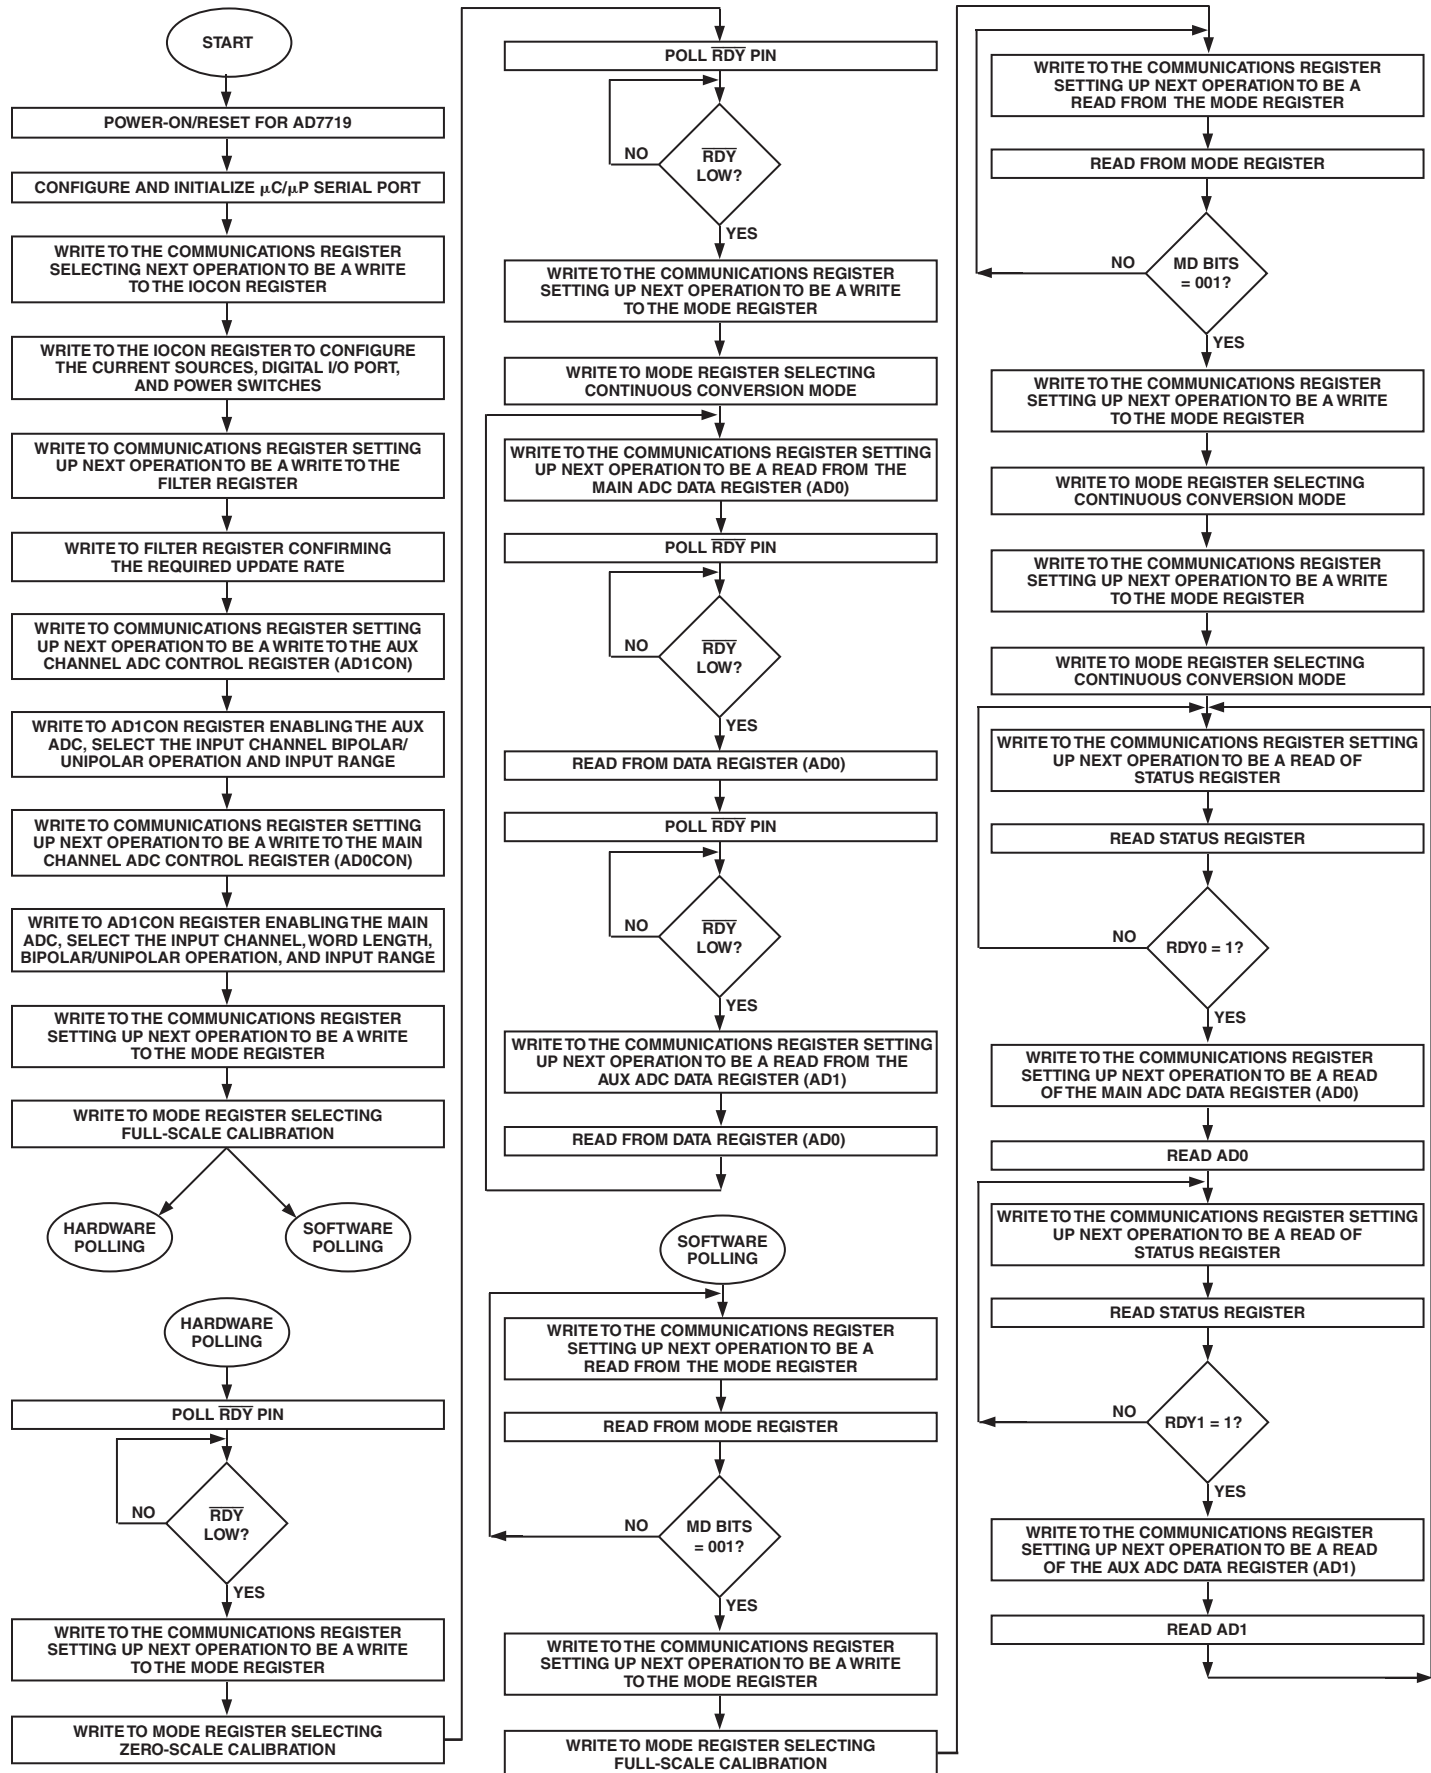
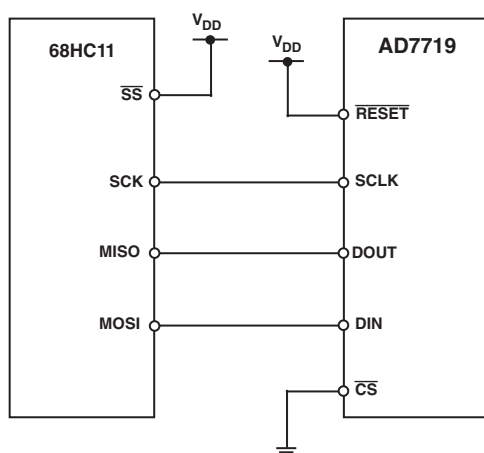

Figure 11. Flowchart for Initializing, Calibrating, and Reading Data from the AD7719 Main and Aux Channels
Figure 12. AD7719-to-68HC11 Interface
Figure 11 outlines a flow diagram of the sequence used to configure all registers after a power-up or reset on the AD7719. The flowchart shows two methods of determining when it is valid to read the data register or determine when a calibration cycle is complete. The first method is hardware polling of the $\overline{\text{RDY}}$ pin and the second method involves software interrogation of bits in the status and mode registers. The flowchart details all the necessary programming steps required to initialize the ADC and read data from the main and aux channel following a power-on or reset. The steps can be broken down as follows:
3. When the operating mode is selected, the user needs to determine when it is valid to read the data in conversion mode or when the calibration is complete in calibration mode. This is accomplished either by polling the $\overline{\text{RDY}}$ pin (hardware polling) or by interrogating the bits in either the Status or Mode registers (software polling). Both are shown in Figure 11. It is assumed that both the main and aux ADCs are being used and calibration is required. If the AD7719 is operated at the factory-calibrated conditions, a field calibration will not be required and these steps can be bypassed.
The AD7719's flexible serial interface allows for easy interface to most microcomputers and microprocessors. The flowchart of Figure 11 outlines the sequence that should be followed when interfacing a microcontroller or microprocessor to the AD7719. Figures 12, 13, and 14 show some typical interface circuits.
Figure 12 shows an interface between the AD7719 and the 68HC11 microcontroller. The diagram shows the minimum (3-wire) interface with $\overline{CS}$ on the AD7719 hardwired low. In this scheme, the RDY bits of the Status register are monitored to determine when the Data register is updated. RDY0 indicates the status of the main ADC channel while RDY1 indicates the status of the aux channel. An alternative scheme, which increases the number of interface lines to four, is to monitor the $\overline{RDY}$ output line from the AD7719. The monitoring of the $\overline{RDY}$ line can be done in two ways. First, $\overline{RDY}$ can be connected to one of the 68HC11's port bits (such as PC0), which is configured as an input. This port bit is then polled to determine the status of RDY. The second scheme is to use an interrupt driven system, in which case the $\overline{RDY}$ output is connected to the IRQ input of the 68HC11. For interfaces that require control of the $\overline{CS}$ input on the AD7719, one of the port bits of the 68HC11 (such as PC1) that is configured as an output, can be used to drive the $\overline{CS}$ input.